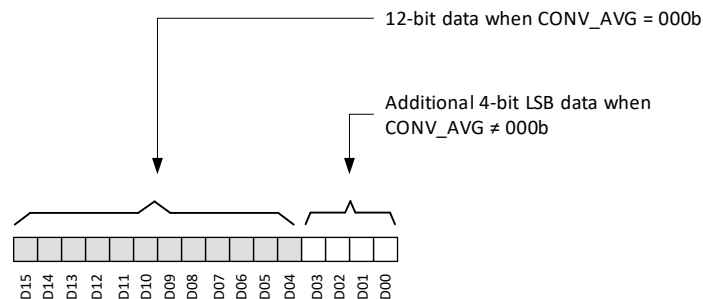

Figure 7-5. Magnetic Sensor Data Definition
The X, Y, and Z magnetic sensor data are stored in the X\_CH\_RESULT, Y\_CH\_RESULT, and Z\_CH\_RESULT registers, respectively. The 12-bit ADC output is stored in 16-bit result registers in 2's complement format as shown in Figure 7-5. With fastest conversion (CONV\_AVG = 000b), the ADC output loads the 12 MSB bits of the 16-bit result register along with 4 LSB bits as zeros. With CONV\_AVG ≠ 000b, all the 16 bits are used to store the results. With DATA\_TYPE = 00b, the 16-bit magnetic sensor data can be accessed through regular 32-bit SPI read. Use Equation 1 to calculate the measured magnetic field.
- $D_i$  is the data bit as shown in Figure 7-5.